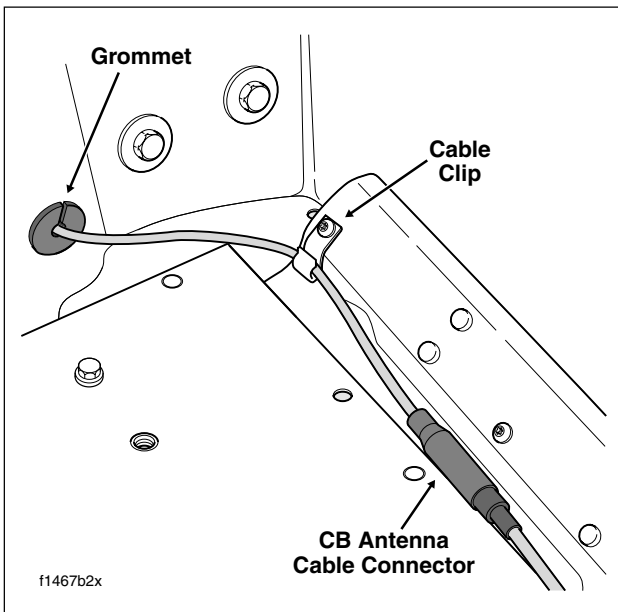

Figure 8-175. Disconnect CB Antenna Cable Connector
13. Separate pin and socket halves of CB antenna cable connector [50]. Release cable from clip at bottom of Tour-Pak. See Figure 8-175.
6. Pass CB antenna cable connector [50] through hole at front of Tour-Pak. Capture cable in grommet. Install grommet in hole with the larger OD facing inside. See Figure 8-175.